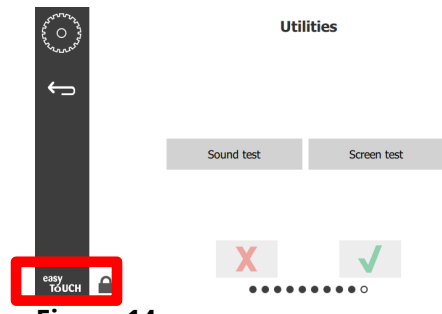

Figure 14
- b) Press and hold the easyTouch logo in the lower right corner for 10 seconds. The controller displays Reset Configuration. Press the GREEN checkmark button. (see Figure 14).